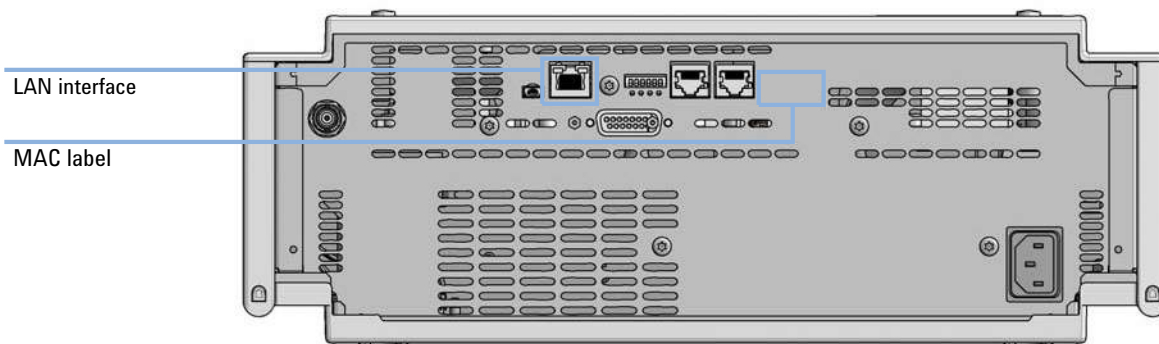

Figure 23 Location of LAN interfaces and MAC label
- 1 Note the MAC (Media Access Control) address for further reference. The MAC or hardware address of the LAN interfaces is a world wide unique identifier. No other network device will have the same hardware address. The MAC address can be found on a label at the rear of the module underneath the configuration switch (see Figure 23 on page 234).
- 2 Connect the instrument's LAN interface (see Figure 23 on page 234) to